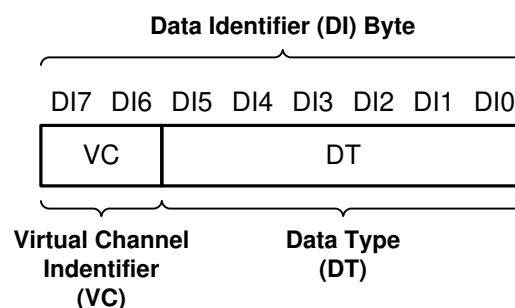

Figure 5-9. CSI-2 Data Identifier Structure
The DS90UB964-Q1 MIPI CSI-2 protocol interface transmits the data identifier byte containing the values for the virtual channel ID (VC) and data type (DT) for the application specific payload data, as shown in Figure 5-9. The virtual channel ID is contained in the 2 MSBs of the data identifier byte and identify the data as directed to one of four virtual channels. The value of the data type is contained in the 6 LSBs of the data identifier byte. The received RAW mode data is converted to CSI-2 Tx packets with assigned data type and virtual channel ID.